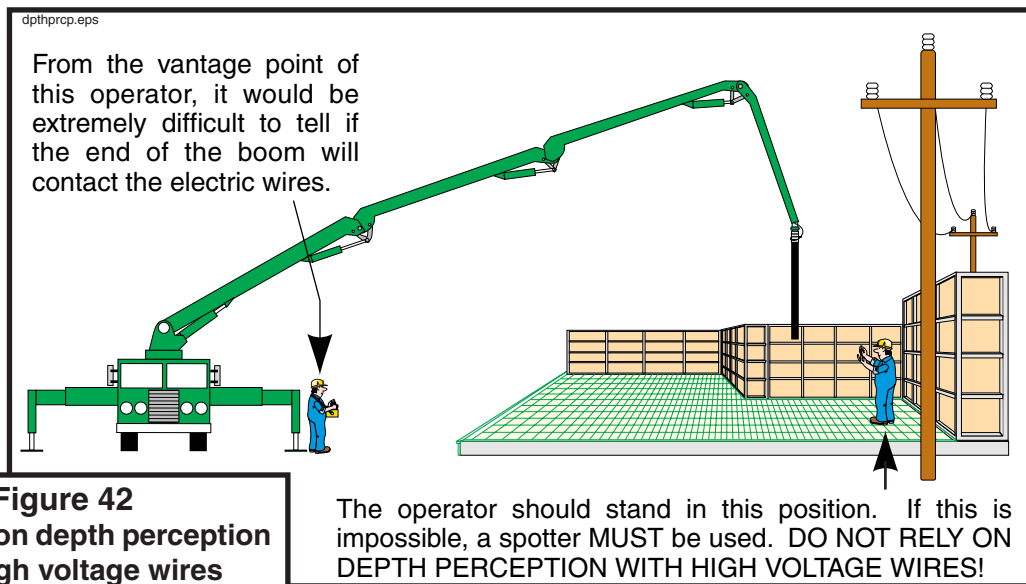

Figure 42
8.11 **⚠ DANGER** Do not rely on depth perception when working near high voltage lines. Put yourself at the best possible vantage point to see the distance between the boom and the wires. If that is not possible, then **you must use a spotter!** (See Figure 42.) See the definition of “spotter” in the glossary found in the appendix of this manual.